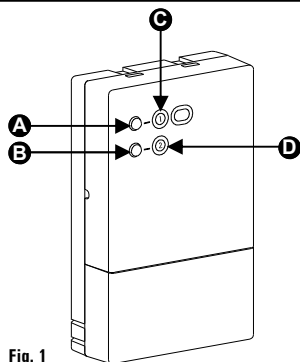

Fig. 1
LEDs (C and D Fig. 1)
SELF-LEARNING BUTTONS (A and B Fig. 1)
The device is equipped with two self-learning buttons for setting up the wireless link between the thermostat (or programmable thermostat) and the receiver, one button for channel 1 (A Fig. 1) and one button for channel 2 (B Fig. 1).
- Press the self-learning button of the desired channel for a second (A Fig.1 for channel 1 and B Fig.1 for channel 2). The self-learning procedure starts: the relevant channel's LED will blink quickly yellow.
- Press and hold the button of the desired channel (A or B Figure 1).
- Press and hold both buttons **A** and **B** Fig.1